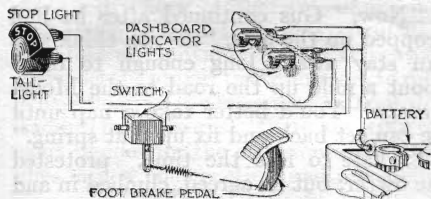

Fig. 2. Indicator lights on your dash board wired as shown may save you from being arrested and fined for not having tail-light lit
**I**NDICATOR lights fitted on your dash will tell you whether your tail and stop lights are properly burning. The wiring diagram of Fig. 2 shows how to fit and wire the indicator lights.